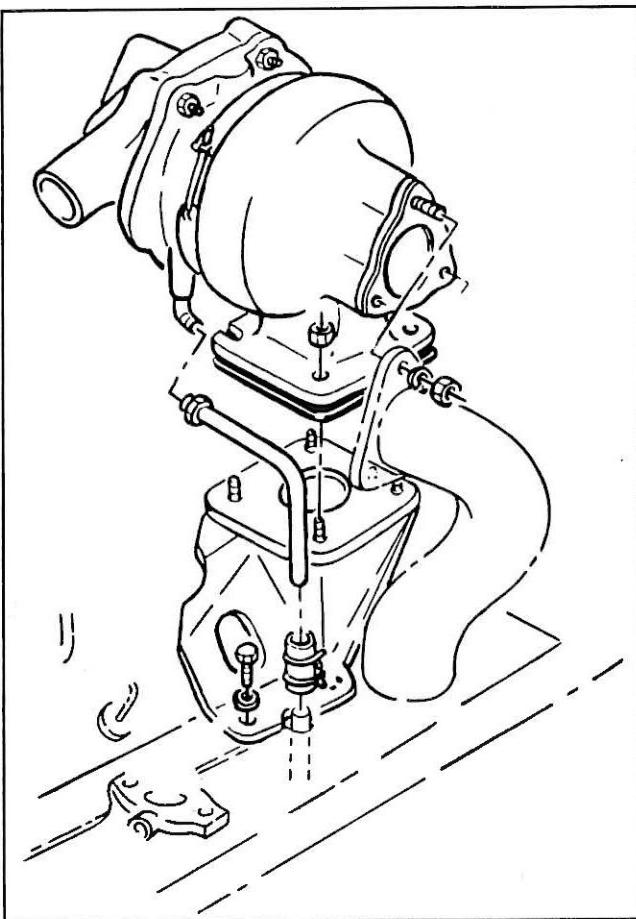

Fig. 41—Turbine Housing Flanges and Gaskets
4. Remove three nuts and washers from turbine flange studs (fig. 41).